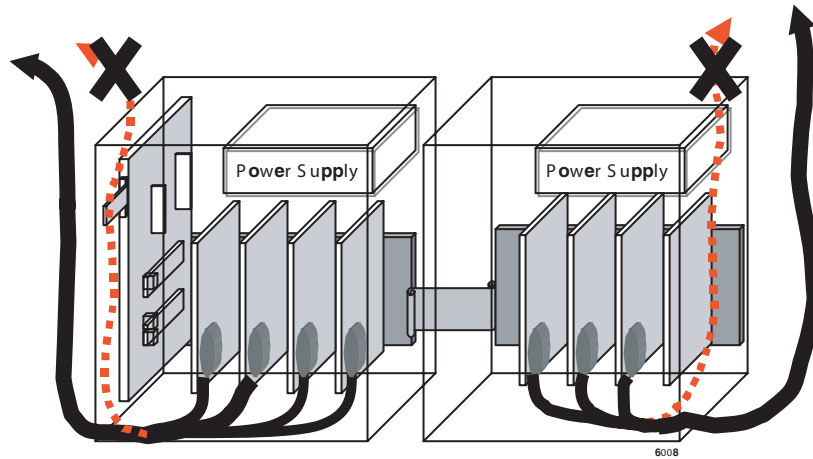

Figure 2-21 Avoid Improper Cable Routing
- ♦ **Do Not Run Cables Out the Top** – Cabling from either cabinet should be routed out the lower sides, not from the top of the cabinet(s) (see Figure 2-21).